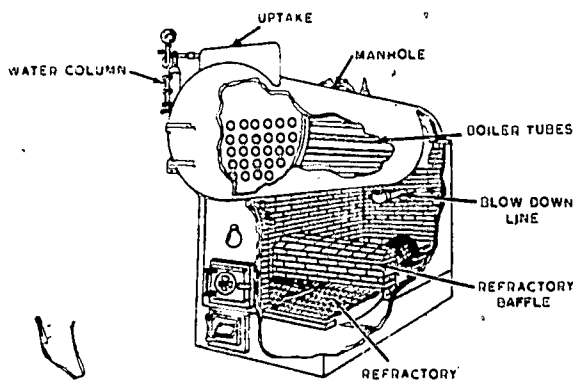

Figure 32. A typical horizontal return tubular boiler.
19. The horizontal-return tubular boiler, often called the HRT boiler, is used for industrial heating (see fig. 32). This boiler is round and has one or two sets of tubes extending throughout its length. The firebox must be constructed separately of firebrick. Approximately one-half of the boiler extends beyond the firebox. Large boilers are supported from the floor by four columns, with the firebrick forming four sides of the firebox. The initial cost of the HRT boiler is relatively low, and it is not difficult to install. The boiler setting can be readily changed to meet different fuel requirements—coal, oil, wood, or gas. Tube replacement is also a comparatively easy task since all tubes in the HRT boiler are the same in size, length, and diameter.
20. The gas flow in the HRT boiler is from the firebox toward the rear of the boiler, where the gases are directed upward to the tubes by means of a refractory baffle, then it returns through the tubes to the front of the boiler where it is discharged to the breeching, as shown in figure 32. The HRT boiler has a pitch of 1 to 2 inches to the rear. This allows sediment to settle toward the rear. The fusible plug of the boiler is located 2 inches above the top row of tubes. Boilers over 40 inches in diameter require a manhole in the upper part of the shell. Those over 48 inches in diameter must have a manhole in the lower as well as the upper part of the shell. Don't fail to familiarize yourself with the location of these and other essential parts of the HRT boiler.